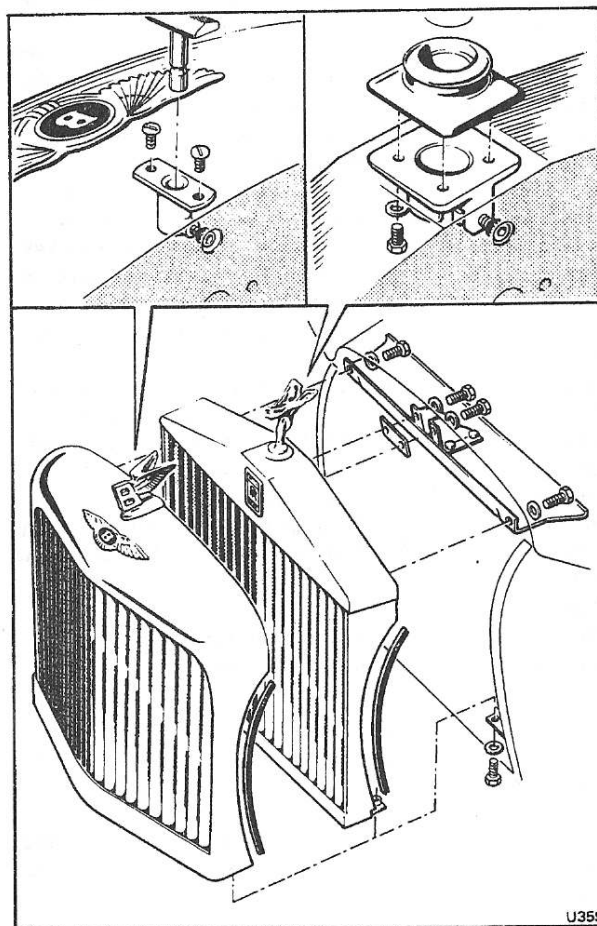

Fig. S119 Rolls-Royce and Bentley radiator shells and fittings
5. Remove the two 7/16 in. A/F setscrews and washers securing the radiator shell through the bonnet centre stop bracket; collect the reinforcement plate fitted between the shell and the stop bracket (see Fig. S119).
3. Remove the two 7/16 in. A/F setscrews and washers securing the radiator shell through the bonnet centre stop bracket. Collect the reinforcement plate fitted between the shell and the stop bracket (see Fig. S119).
Radiator shell — To dismantle**Cars fitted with a Rolls-Royce radiator (see Fig. S119)**
2. Remove the Rolls-Royce 'flying lady' mascot by slackening the socket headed screw securing it to the shell; lift the mascot from its base. Access to the socket headed screw is through the central hole in the upper rear face of the radiator shell (see Fig. S119, inset).
4. Remove the mascot clamping boss from the shell by releasing the four 2BA setscrews securing the boss to the shell (see Fig. S119, inset).
Radiator shell — To assemble**Cars fitted with a Rolls-Royce radiator (see Fig. S119)**
Radiator shell — To dismantle**Cars fitted with a Bentley radiator (see Fig. S119)**
4. Remove the Bentley winged 'B' mascot. Slacken the socket headed screw securing it to the shell then lift the mascot from its base. Access to the socket headed screw is through the central hole in the upper rear face of the radiator shell (see Fig. S119, inset).
Radiator shell — To assemble**Cars fitted with a Bentley radiator (see Fig. S119)**